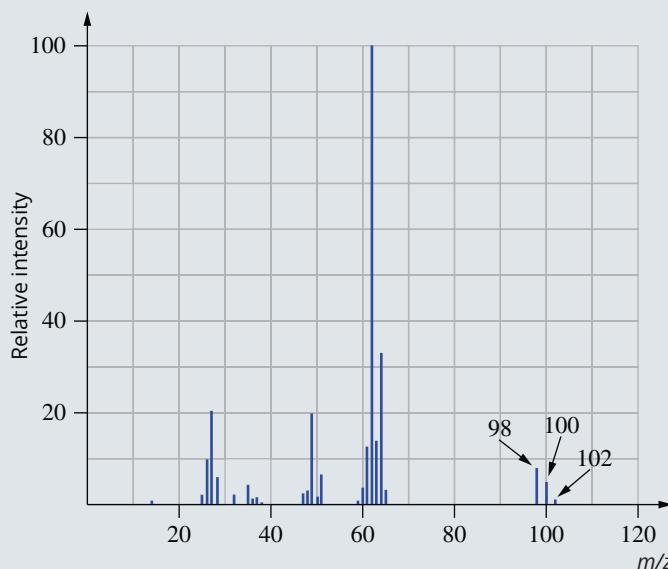

FIGURE 12.5.4 Mass spectrum of dichloroethane.
- 11** The mass spectrum of dichloroethane is shown in Figure 12.5.4.